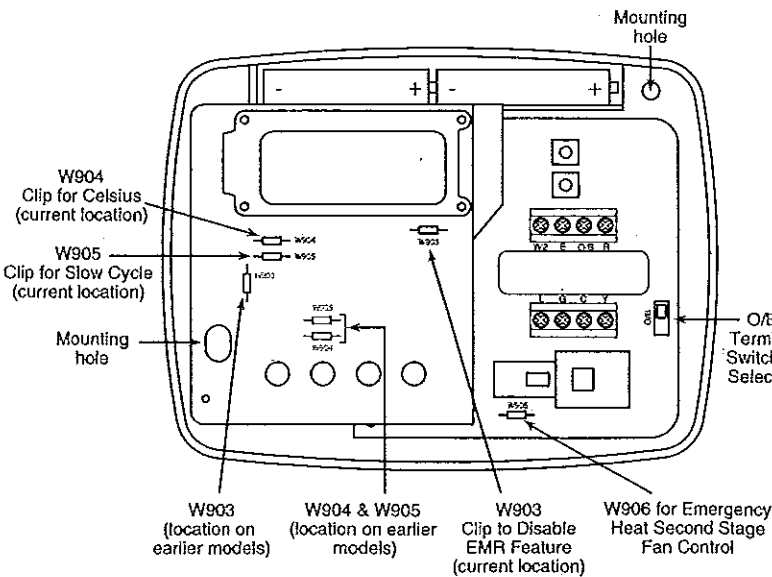

Figure 1. Thermostat base
If your emergency or auxiliary system will energize the blower, then jumper W906 on the thermostat base must be cut (see fig. 1).
To disable EMR, clip jumper W903 (see Fig. 1).
5. Fasten base loosely to wall, as shown in fig. 1, using two mounting screws. Place a level against bottom of base, adjust until level, and then tighten screws. (Leveling is for appearance only and will not affect thermostat operation.) If you are using existing mounting holes, or if holes drilled are too large and do not allow you to tighten base snugly, use plastic screw anchors to secure subbase.
This thermostat does not require batteries to operate. The 2 "AAA" alkaline batteries are for the thermostat to remember the programming if AC voltage is lost. If the display shows **BATT** or **CHANGE**  when AC power is not present, the batteries are low and should be replaced with fresh "AAA" alkaline batteries. For best results, replace all batteries with new premium brand alkaline batteries such as Duracell® or Energizer®. To replace the batteries, install the batteries along the top of the base (see fig. 1). The batteries must be installed with the positive (+) ends to the right.